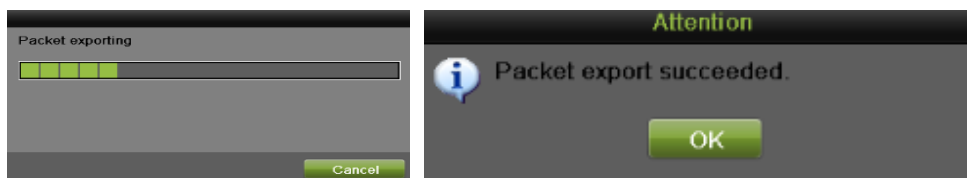

Figure 178 Export Process Bar
4. After the exporting is complete, click OK to finish the packet export, as shown in Figure 178.